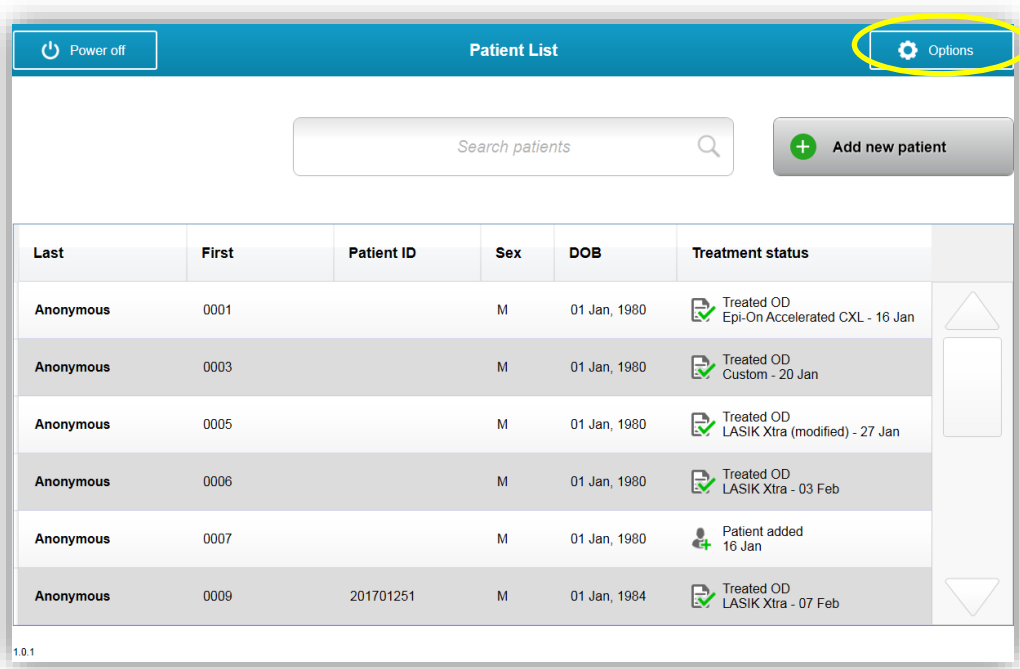

Figure 3-51. Press the “Options” button
- From the Patient List homescreen, press the “Options” button, then press “System Settings” as shown in Figures 3-51 and 3-52.